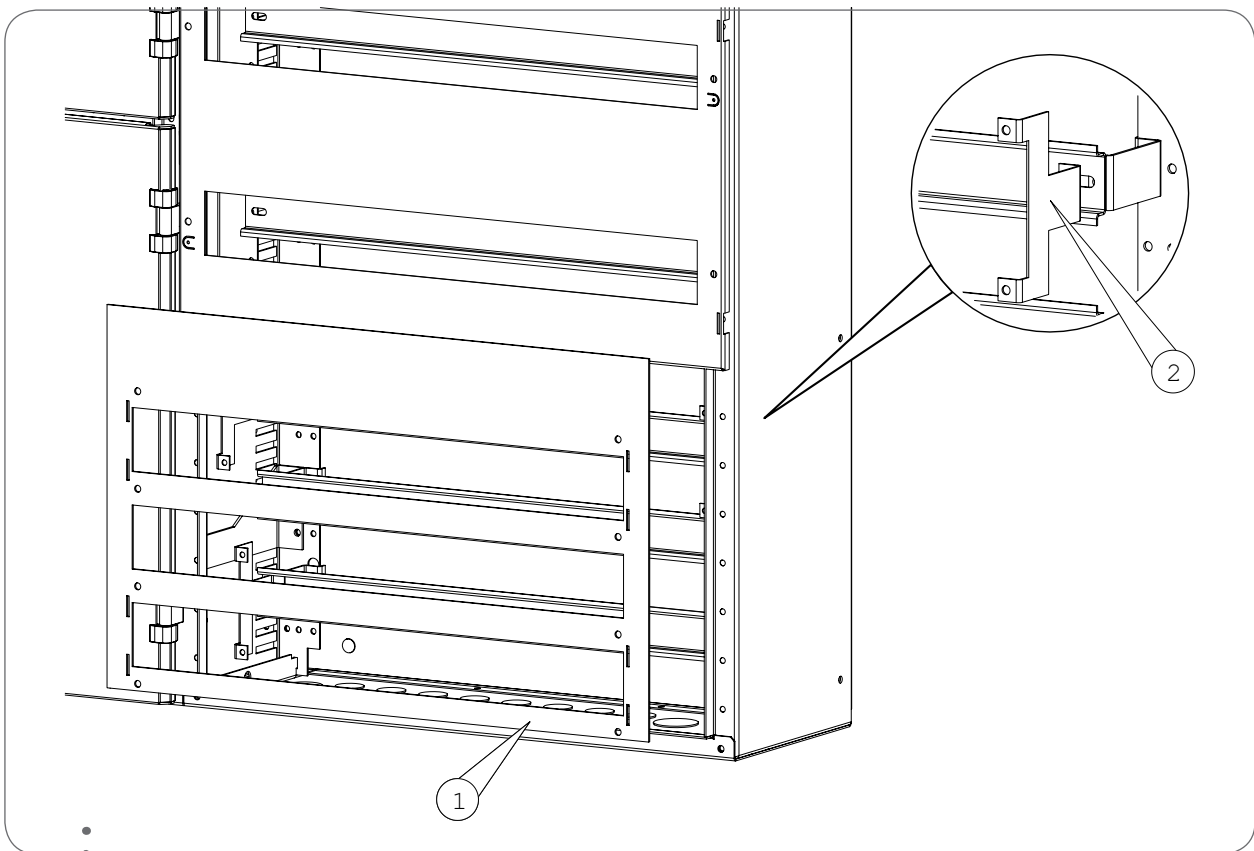

Fig 8.8.1 Installing touch screen plates. Touch screens (1) are fastened using brackets (2) positioned in front of the DIN rails.
The use of touch and finger screens is similar to intermediate covers. The DIN rails used for mounting components and the touch screen brackets (2) are fastened in front of spacers. Touch screen plates (1) is fastened with screws or the tabs on the brackets as shown in Fig. 8.8.1.